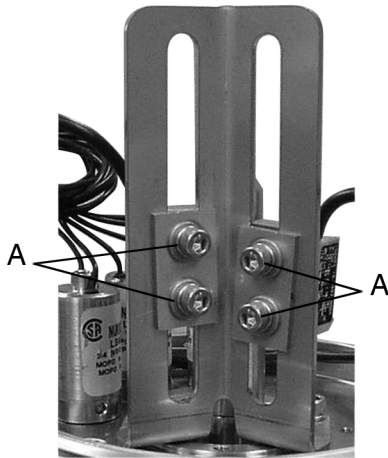

Figure 21: Switch Adjustment
1. Raise the stem to open, then loosen the cap screws holding the switch blocks (Figure 21, item A) with a 9/64" allen wrench and slide the switches to set the distance between the switches and the stem shaft at 0.040" (1 mm). If using a micro switch, place a 0.020" feeler gauge between the roller and the small diameter of the stem. Adjust the switch toward the stem until a "click" is heard.
2. Hand-tighten the cap screws (Figure 21, item A) to hold the switch position.